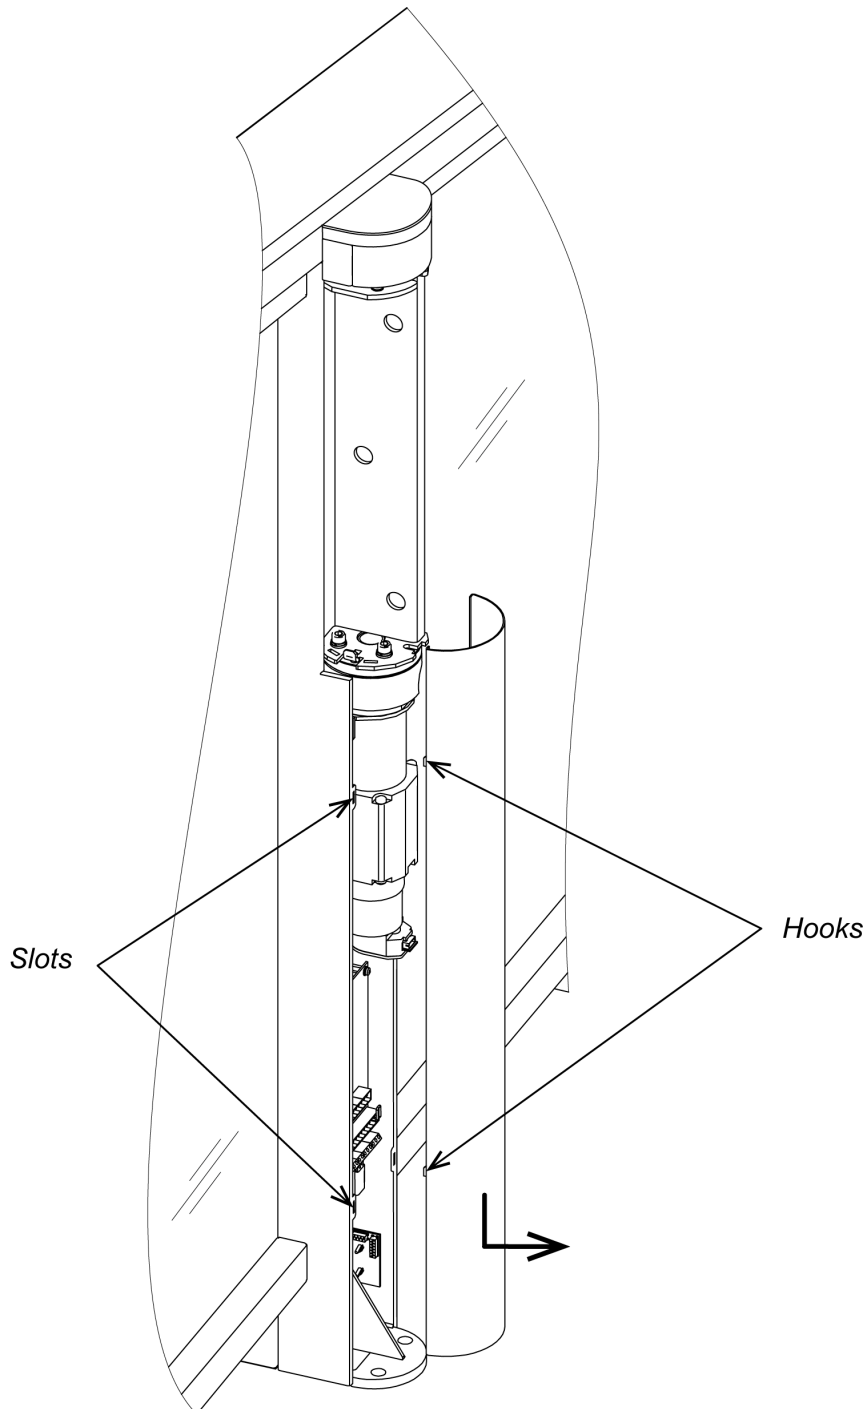

Figure. 19 Central post cover plate disassemble
To remove the central post cover plate (2), pull the cover plate down along the post, take it aside from the post, bringing the hooks from slots in the central post (Fig. 19).